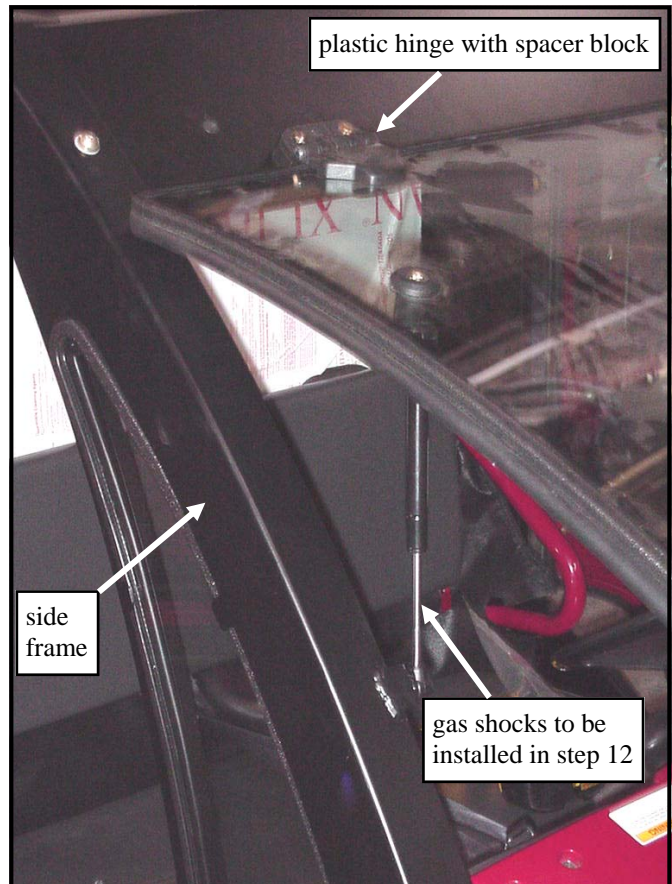

Fig. 7.1
7.1 Have the following items ready to use: two plastic spacer blocks, four flat head screws (1 3/4" long), four flat steel washers, and four 5/16-18 locknuts. With assistance, place the windshield in place on the windshield support with the 3/4" thick plastic spacer blocks underneath the plastic hinges for mounting up against the outer surface of the windshield support per Fig. 7.1. Adjust windshield alignment with latches engaged and tighten. **Note: hinges are plastic components. Do not overtighten. Torque to 7 ft. lbs. max..**